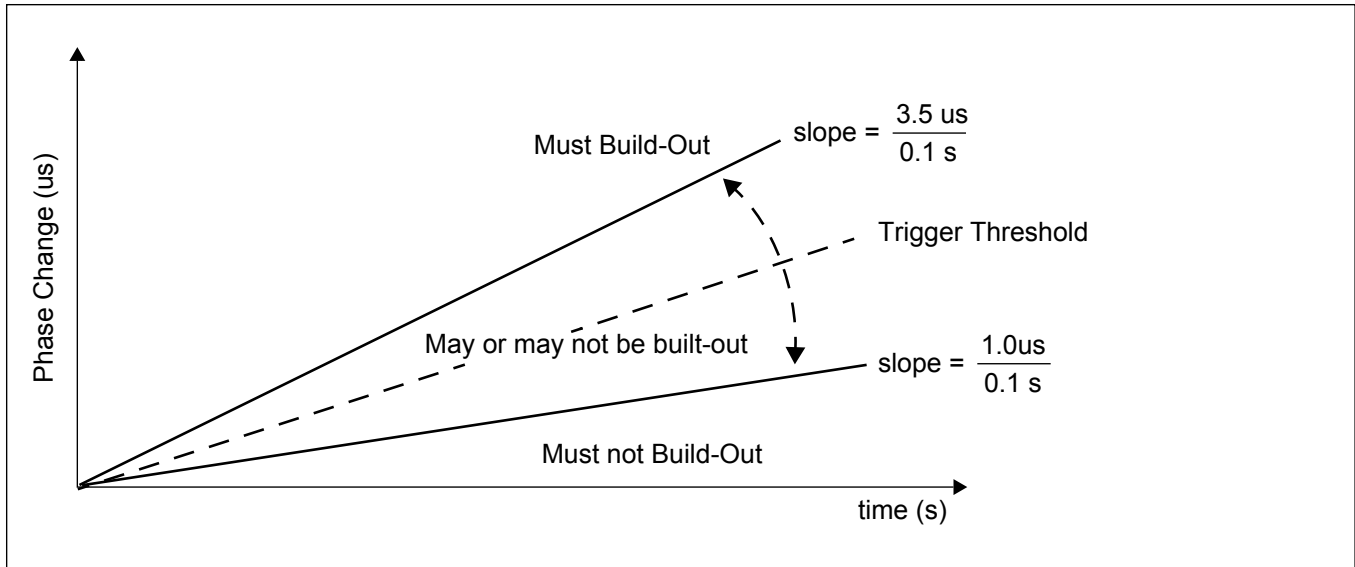
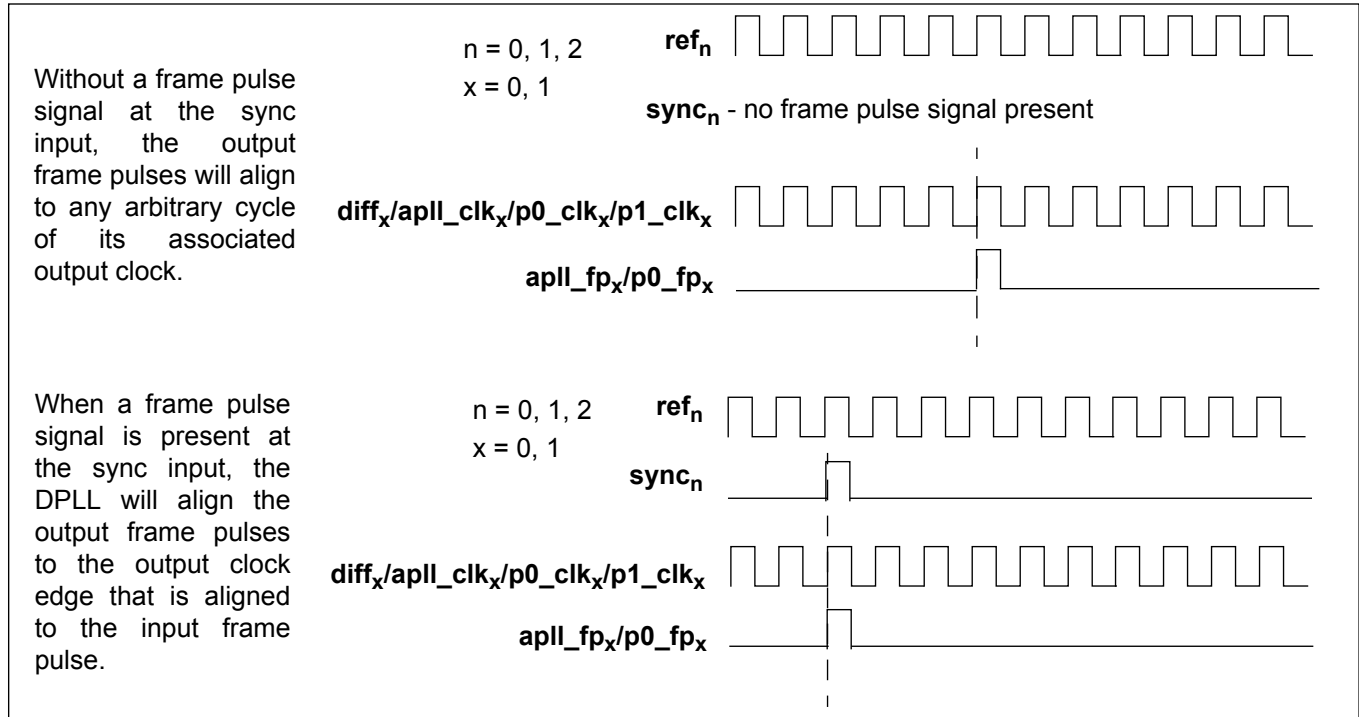
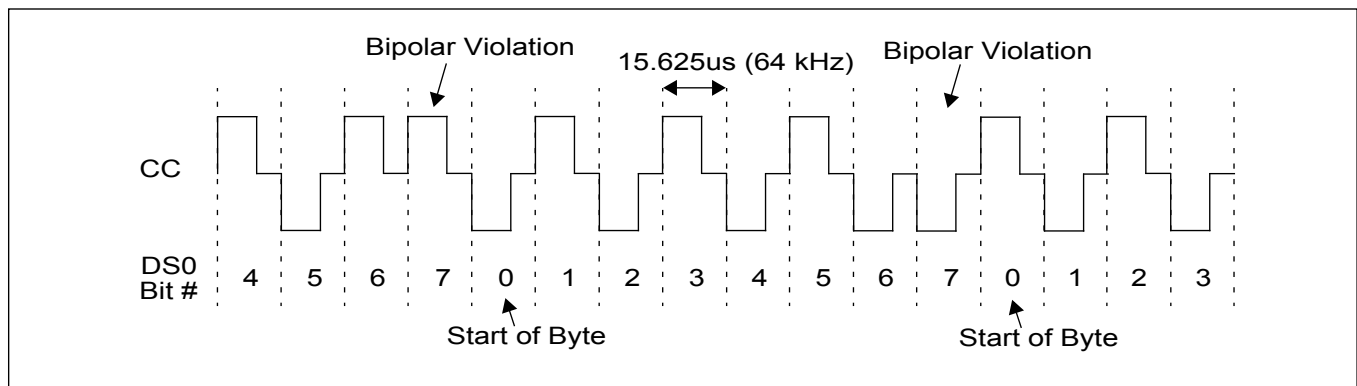
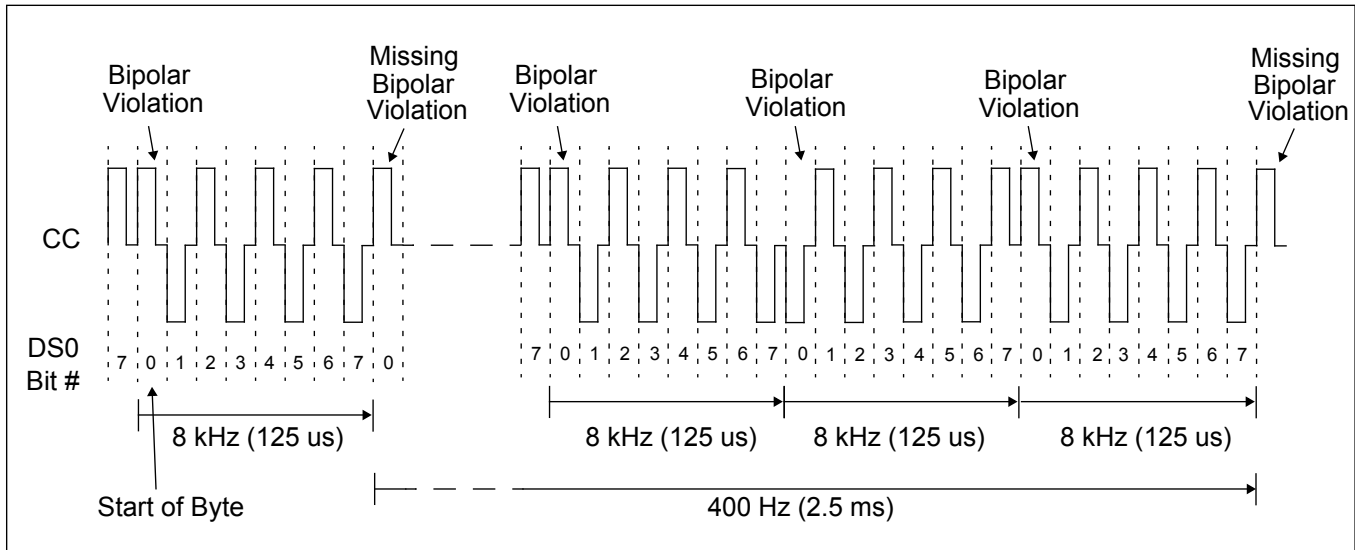

Figure 5 - Telcordia GR-1244 Stratum 3E Phase Build-Out Requirements
Figure 7 - Output Frame Pulse Alignment
Figure 8 - GR-378/G.703 Composite Clock Format
Figure 10 - G.703 Japanese Composite Clock (Appendix II)
One of the requirements for meeting Stratum 3E is phase build-out on incoming phase transients which may occur on the active reference. Phase build-out is the process of absorbing a phase transient to prevent it from passing through to the output. Telcordia GR-1244 requires that Stratum 3E clocks build-out a phase transient that is greater than 3.5 us in a 0.1 s window. Phase transients below 1 us in a 0.1 s window must not be built-out. A transient between the region of 1.0 us and 3.5 us in a 0.1 s window may or may not be built-out. This is described in Figure 5.
In addition to the reference inputs, DPLL1 has three optional frame pulse synchronization inputs (**sync0** to **sync2**) used to align the output frame pulses. The **sync_n** input is selected with its corresponding **ref_n** input, where $n = 0, 1, 2$. Note that the sync input cannot be used to synchronize the DPLL, it only determines the alignment of the frame pulse outputs. An example of output frame pulse alignment is shown in Figure 7.
The composite clock (CC) is a timing signal that provides both phase (bit/byte alignment) and frequency synchronization for SONET/SDH network elements. The CC signal is a 64 kHz, 5/8 duty cycle, return-to-zero, bipolar signal with bipolar violation (BPV) every 8th bit. The format of the CC signal is shown in Figure 8. Bit synchronization is achieved on the trailing edge of the 64 kHz CC signal, byte synchronization is indicated on the occurrence of the 8 kHz BPV. Specifications for the CC signal are covered in Telcordia GR-378 and ITU-T G.703.
Another form of the CC signal (mainly used in Japan) is shown in Figure 10. Its format is similar to the CC shown in Figure 8 with the exception that the byte alignment is marked during the occurrence of the 8 kHz BPV instead of the bit after the BPV. It also provides for optional multi-frame synchronization by violating the 8 kHz bipolar violation at a 400 Hz rate. The specification for this CC signal is covered in ITU-T G.703 Appendix II.
The main difference between the CC signal in Figure 8 and in Figure 10 is in the definition of byte alignment with respect to the 8 kHz BPV. Start of byte alignment in the CC signal of figure 5 occurs after the 8 kHz BPV, whereas start of byte alignment in figure 7 occurs during the 8 kHz BPV. The frame pulse outputs can be made to align with either of these CC signal formats using the *ref0_cc_fp_mode* and *ref1_cc_fp_mode* bits in the *cc_ref0_ctrl* (0x7B) and *cc_ref1_ctrl* (0x7C) registers.
The CC signal shown in Figure 10 has an additional 400 Hz frame indicator. It is indicated by a missing BPV every 2.5 ms. The frame pulse outputs can be made to align to the missing BPV by modifying the *ref0_cc_fp_sel* and *ref1_cc_fp_sel* bits of the *cc_ref0_ctrl* (0x7B) and *cc_ref1_ctrl* (0x7C) registers.